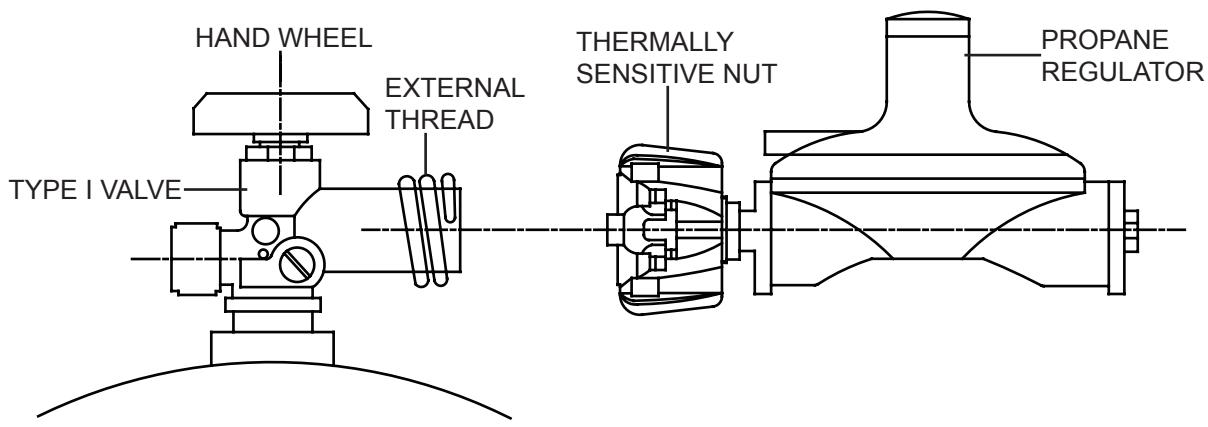

Fig. 22
**WARNING:** The Type I connective coupling (see Fig. 22) supplied with your grill must not be replaced with a different type of grill/tank connection system. Removal will result in loss of warranty, gas leakage, fire and severe bodily harm.